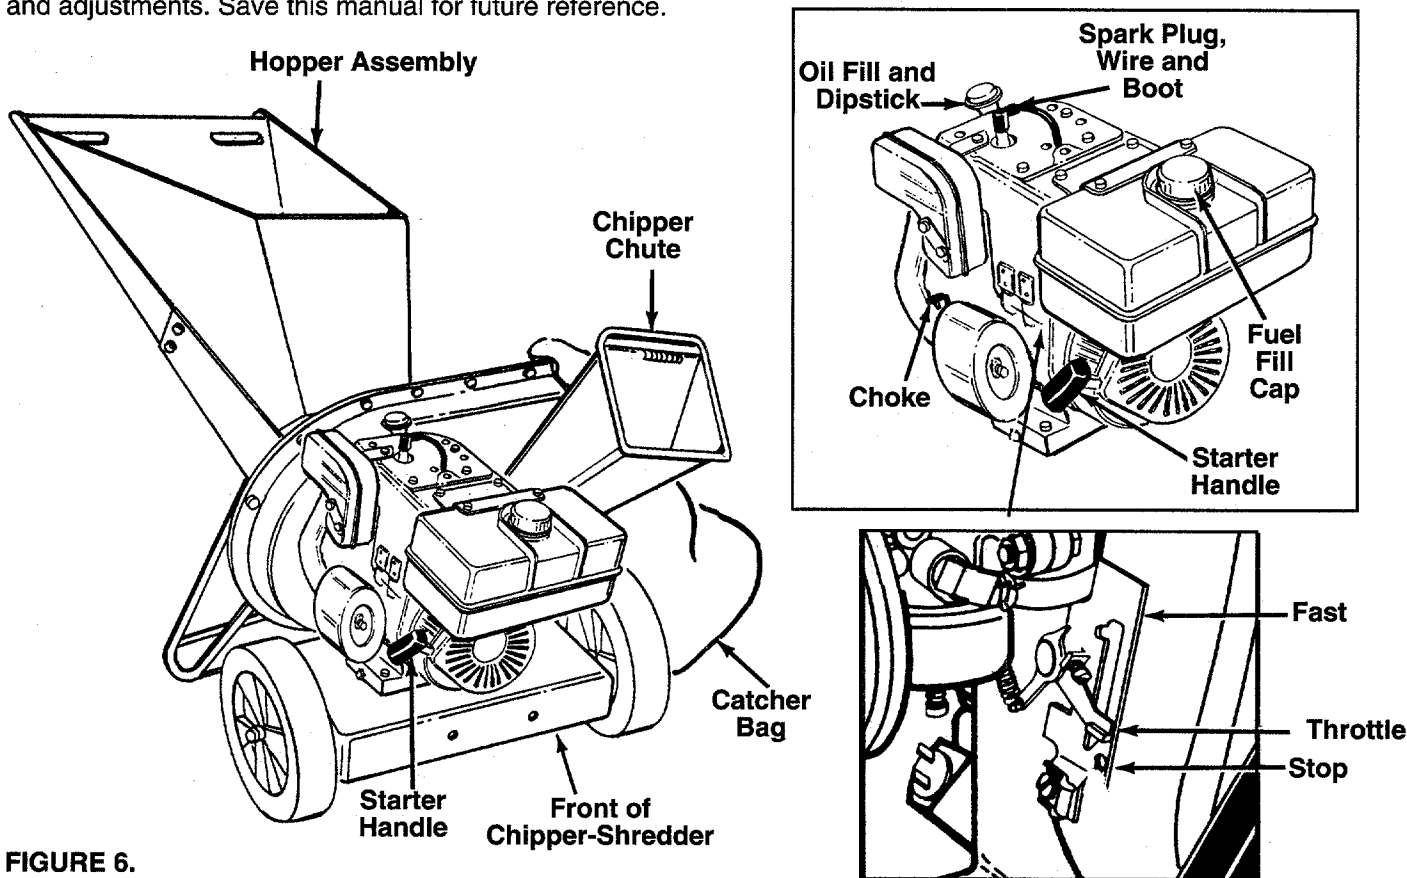

FIGURE 6.
**NOTE:** To determine right and left hand sides of your chipper-shredder, stand behind the unit with the engine the farthest away from you. See figure 6.
**CHOKE LEVER**—Used to enrich the fuel mixture in the carburetor when starting a cold engine. See figures 6 and 14.
**STARTER HANDLE**—Used to manually start the engine. See figure 6.
**THROTTLE CONTROL**—Permits selection of fast or slow engine speed. See figure 6 and 13.
- Move throttle control lever to STOP position. See figure 6.
- Disconnect spark plug wire and move away from spark plug to prevent accidental starting while equipment is unattended. See figure 6.